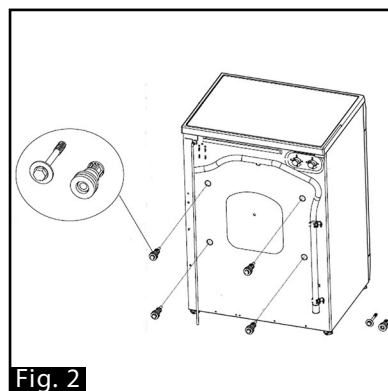

Fig. 2
1. Loosen all bolts and plastic spacers (including rubber grommets) with spanner wrench and remove (Fig. 2).